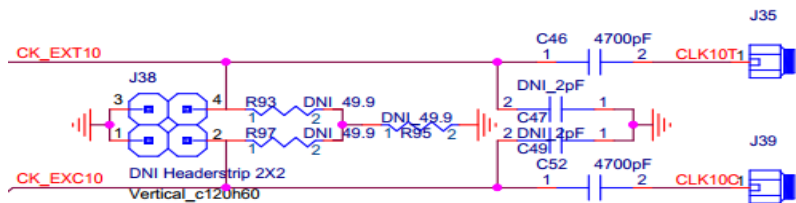

Figure 11. Output Termination with Bias Schematic
*Note:* Some features of this EVB are not available for RC2121xA devices. In Figure 11, **DNI** denotes *Do Not Install*.